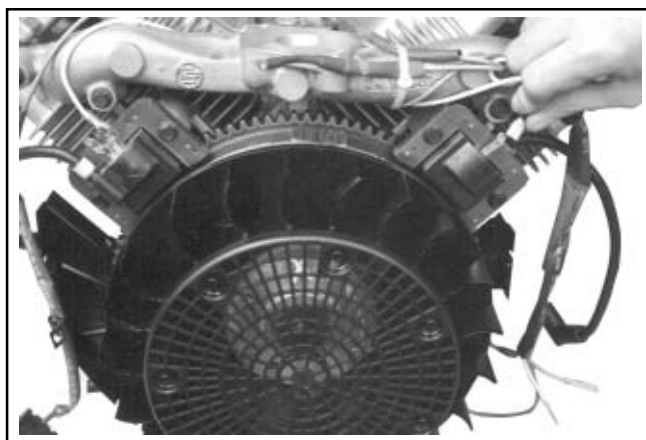

Figure 11-51. Connecting Kill Leads on Standard Ignition Modules.
2. Connect the kill lead to the tab terminal on standard ignition modules. See Figure 11-51.